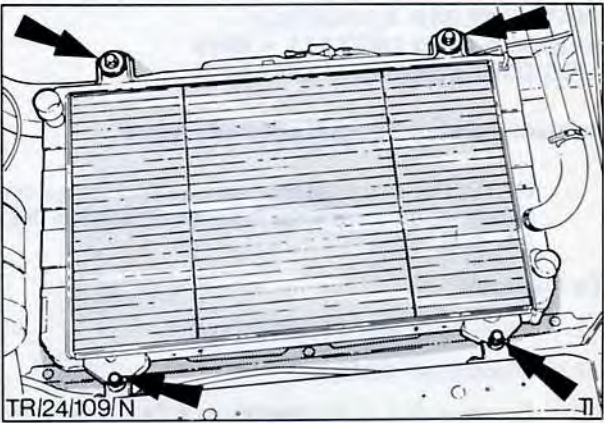

Fig. 6. Arrows depict radiator mountings (Viewed from engine compartment for clarity)
7. Remove two lower and two upper radiator mounting bolts, Fig. 6, noting which way rubber bushes are fitted. Guide radiator and expansion tank from vehicle.